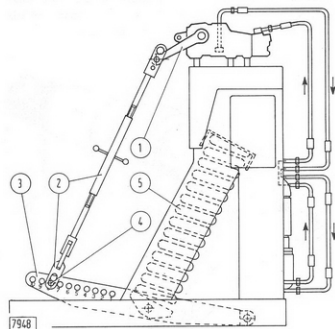

Fig. 222 - Hydraulic Lift Test Machine No. 292650
Fit the lift assembly to tester No. 292650 (see Fig. 222), connecting lift levers (1) to cross member (2), and